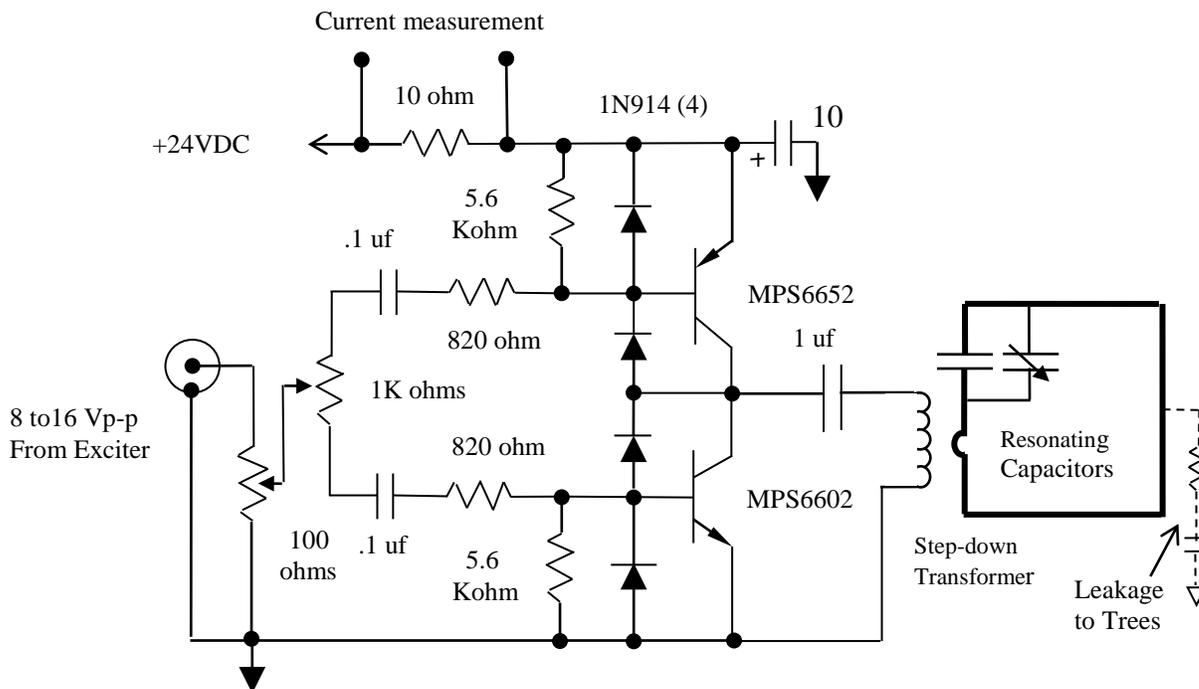

Fig 1 The Ashlock Final
1. Finding the resonant capacitance: The resonant capacitor will be a bank of 500v dipped mica capacitors plus a trimmer having a total capacity of approximately 7000pf. (See step 5). Set up the loop as a receiving loop using the same or a similar step-down transformer as is used in the transmitter. This includes using the same step-down ratio indicated in Table 2. Connect a receiver having coverage in the same area of the Lowfer band where it is desired to transmit to the primary of the transformer via a coax cable (the side with 7 to 13 turns). Connect the resonant capacitor bank in series with the loop and the transformer secondary as in figure 1. Locate the resonant frequency of the loop by tuning the receiver across the band and note the frequency where the background noise reaches a sharp peak. Add or remove capacity from the capacitor bank to reach the desired transmitting frequency.